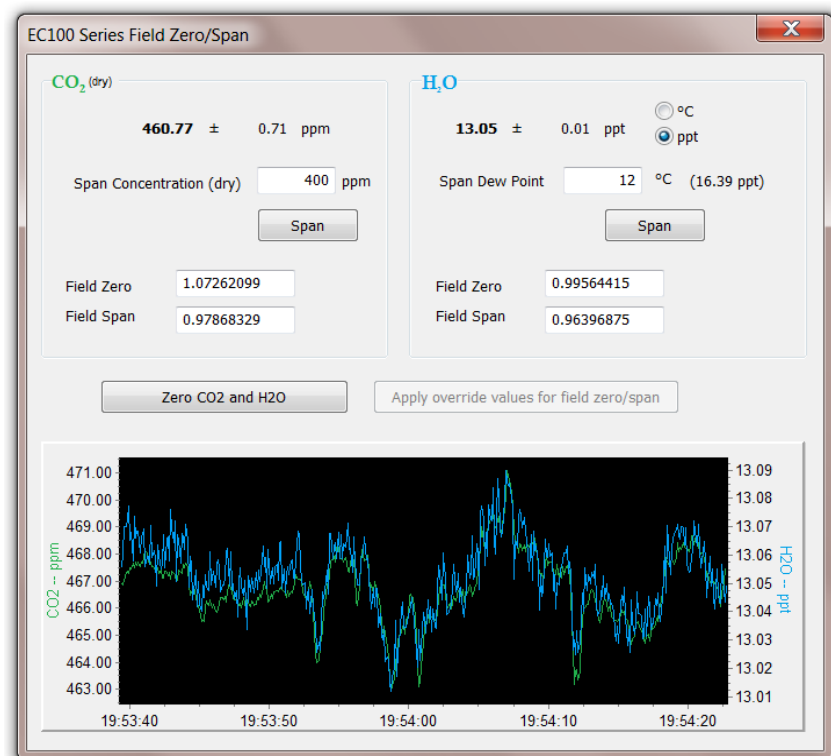

Figure 9-5. ECMon zero-and-span window
7. Launch ECMon, select the appropriate USB port, and click **Connect**. The main screen should now be reporting real-time CO₂ and H₂O concentrations. Click **Zero/Span**. A graph will appear in the lower half of the zero-and-span window showing measured CO₂ and H₂O concentrations (see Figure 9-5).